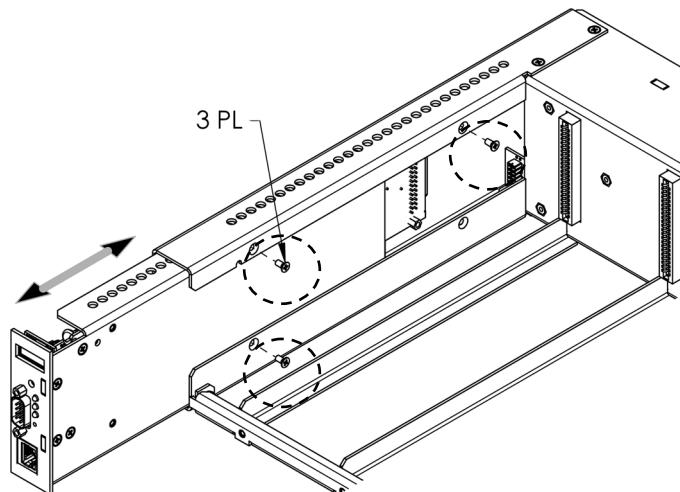

Figure 9—Showing CXCI removal and replacement
8. Remove three mounting screws from the CXCI as shown in Figure 9.
- Locate JP2 on the back of CXCI/CXCI+ system shelf (Figure 9)
7. Follow steps 8 and 9 for replacing a CXCI (Figure 9).